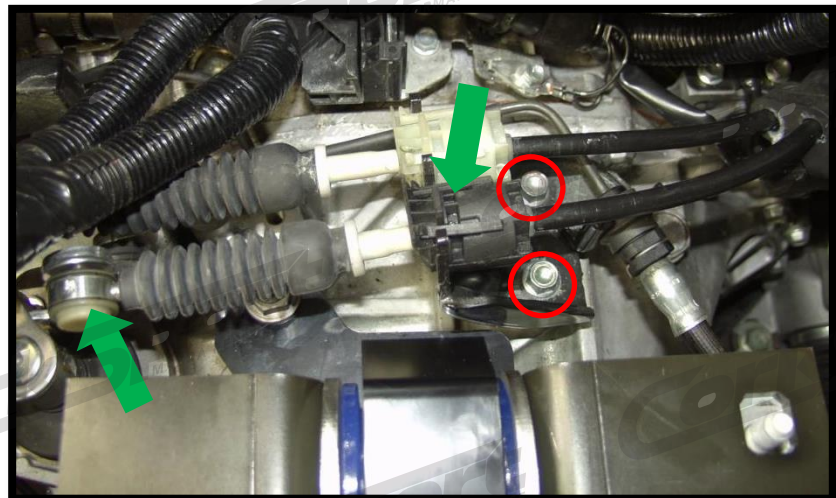

Figure 5c
- d) **Replace the two (2) 12mm shifter bracket bolts** and lock the cable back into place (Figure 5c).
- e) **Replace the black metal battery box bracket removed in step 4b.** Thread on the four (4) 17mm nuts and Torque to 33-44ft-lbs.
- g) **Replace the skid tray.** Tighten the seven (7) 10mm bolts and two (2) plastic push clips.
- d) Replace the two (2) 12mm shifter cable bracket bolts (red circles) and lock the cable back into place (green arrows in Figure 5c). Torque to 15 ft-lbs.